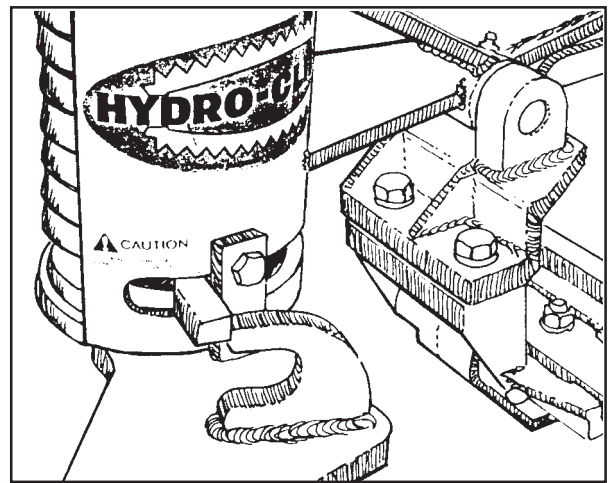

FIGURE 22
3. Pull back w/ the come-along until the spring tang lifts off the stop block. (Figure 22, Next Page)